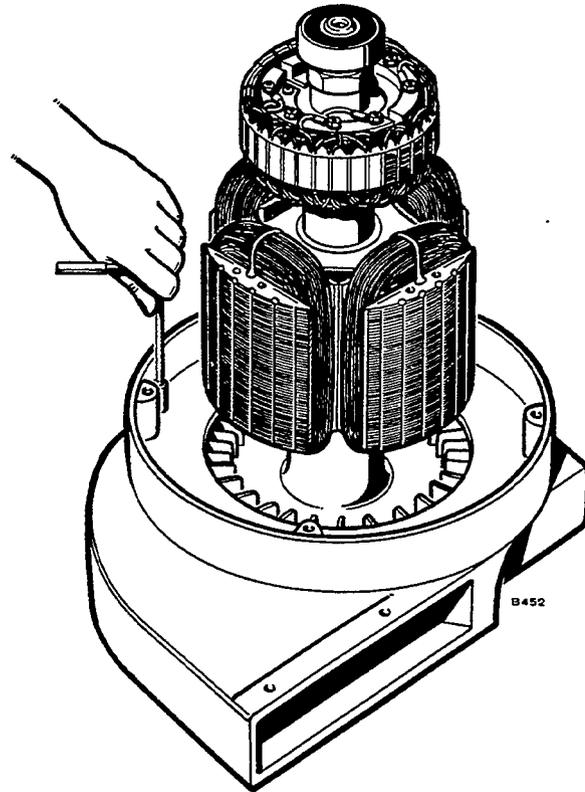

FIGURE 61. AIR BAFFLE REMOVAL
- Remove air baffle by loosening four locking screws, Figure 61.